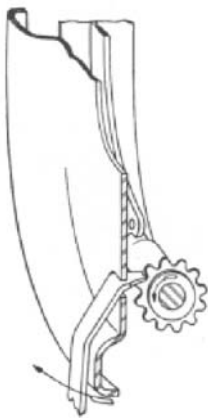

Figure 3
The Adjusting Screw - Fig. 3. This adjustment compensates for lining wear.
8. *At All Wheels:* Expand the brake shoes by turning notched adjusting screw toward rim of backing plate, using Bendix adjusting tool or screw driver inserted through backing plate), moving outer end of tool toward center of wheel (Fig. 3). Continue until brake drum can just be turned by hand.